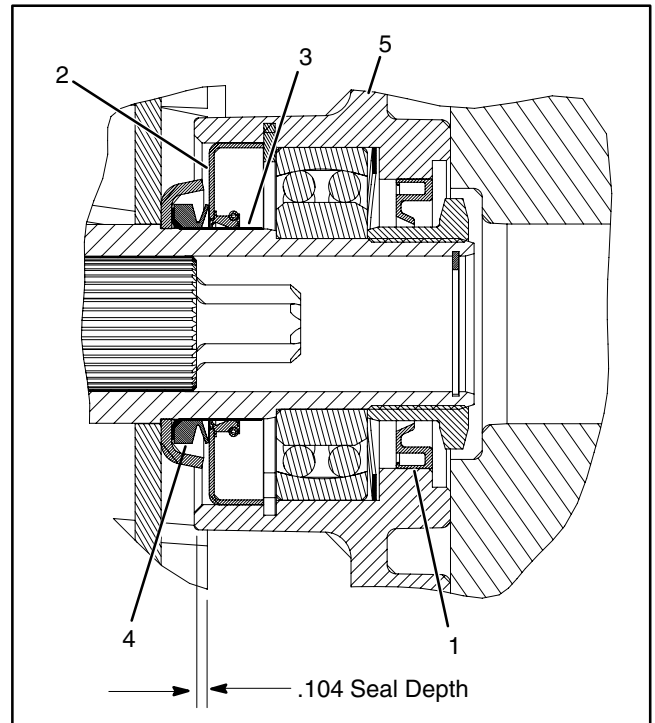

Figure 20
6. Pack the bearing (12) with Mobil High Temperature HP or equivalent grease. Insert the bearing into the side plate against the wave washer.
7. Press the retaining ring (14) into the groove, slightly compressing the bearing and wave washer.
8. Pack the cavity of the inner seal (13) with Mobil High Temperature HP or equivalent grease.
9. Using inner grease seal installation washer (Toro Part Number 104-0532) press the inner seal (13) into the side plate until the washer is flush with the outer edge of the side plate bore. Remove the washer. When properly installed, the seal should be positioned .104 in. below the inner edge of the side plate bore.
10. Press the outer seal (9) into the side plate until it is flush with the the outer edge of the side plate bore.
IMPORTANT: The outer grease seal (9) should be installed so the lip is facing out. This helps keep contamination from entering, and allows grease to vent or purge out if necessary (Fig. 20).
11. Fill remaining voids, behind inner grease seal (13) and outer grease seal (9) lips with Mobil High Temperature HP or equivalent grease.
5. Insert the O-ring (11) into the groove in the side plate. Apply a light coating of grease onto the O-ring, after it is installed.
6. Pack the bearing (12) with Mobil High Temperature HP or equivalent grease. Insert the bearing into the side plate until it is against the bottom of the bore.
7. Pack the cavity of the inner seal (13) with Mobil High Temperature HP or equivalent grease.
8. Using inner grease seal installation washer (Toro Part Number 104-0532) press the inner seal (13) into the side plate until the washer is flush with the outer edge of the side plate bore. Remove the washer. When properly installed, the seal should be positioned .104 in. below the inner edge of the side plate bore.
9. Press the outer seal (9) into the side plate until it is flush with the the outer edge of the side plate bore.
10. Fill remaining voids, behind inner grease seal (13) and outer grease seal (9) lips with Mobil High Temperature HP or equivalent grease.
5. Using an appropriate I.D. tube or sleeve, press the speedi sleeve onto the reel shaft until it bottoms out on the spider cup (Fig. 20).
6. Slide the V-ring onto the reel shaft with the thick shoulder of the V-ring facing inward (Fig. 20).
7. Fill the drive coupling (4) 1/2 to 1/3 full with Mobil High Temperature HP or equivalent grease. Also, coat the outside of the drive coupling with grease.
8. Install the retaining ring (5). Make sure it is seated into the groove.